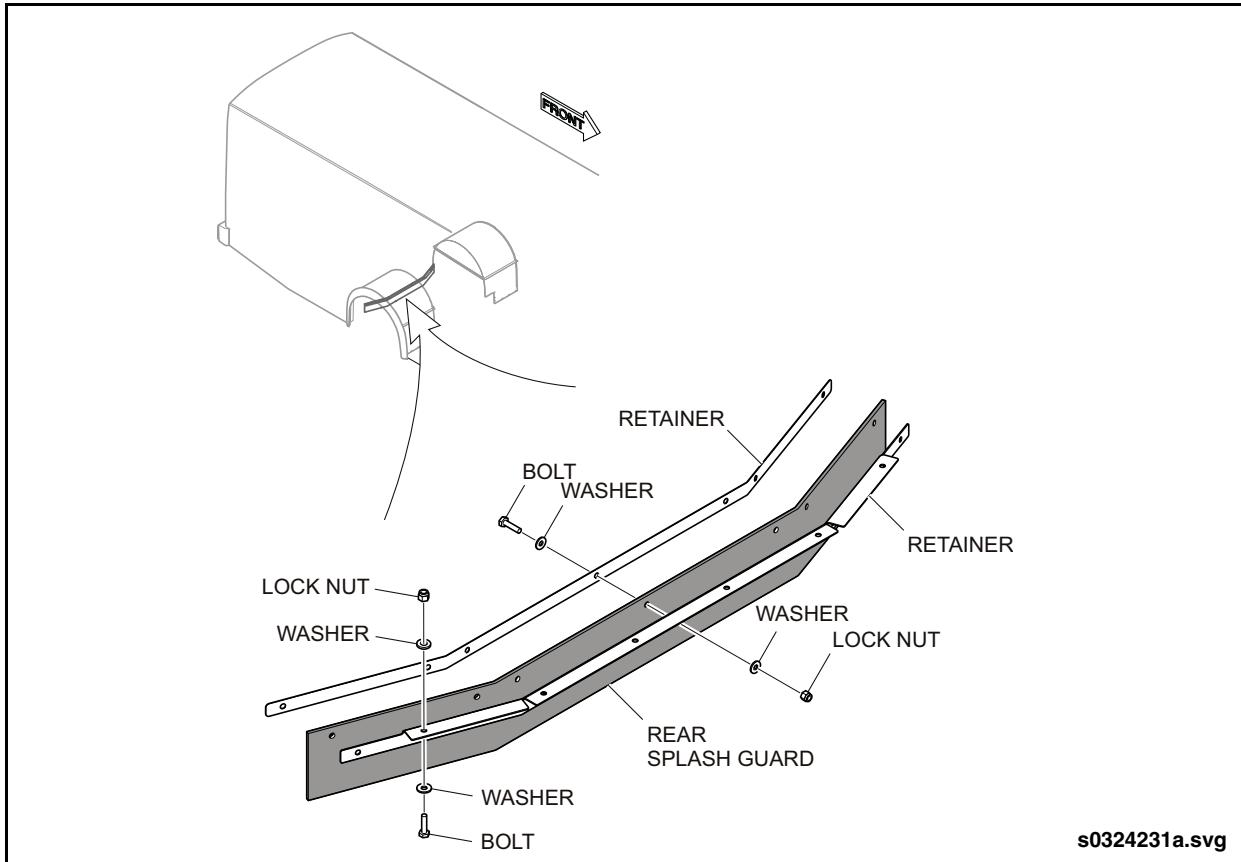

Fig. 13-16: Rear Splash Guard
2. Support the splash guard. See "Fig. 13-16: Rear Splash Guard" on page 44.